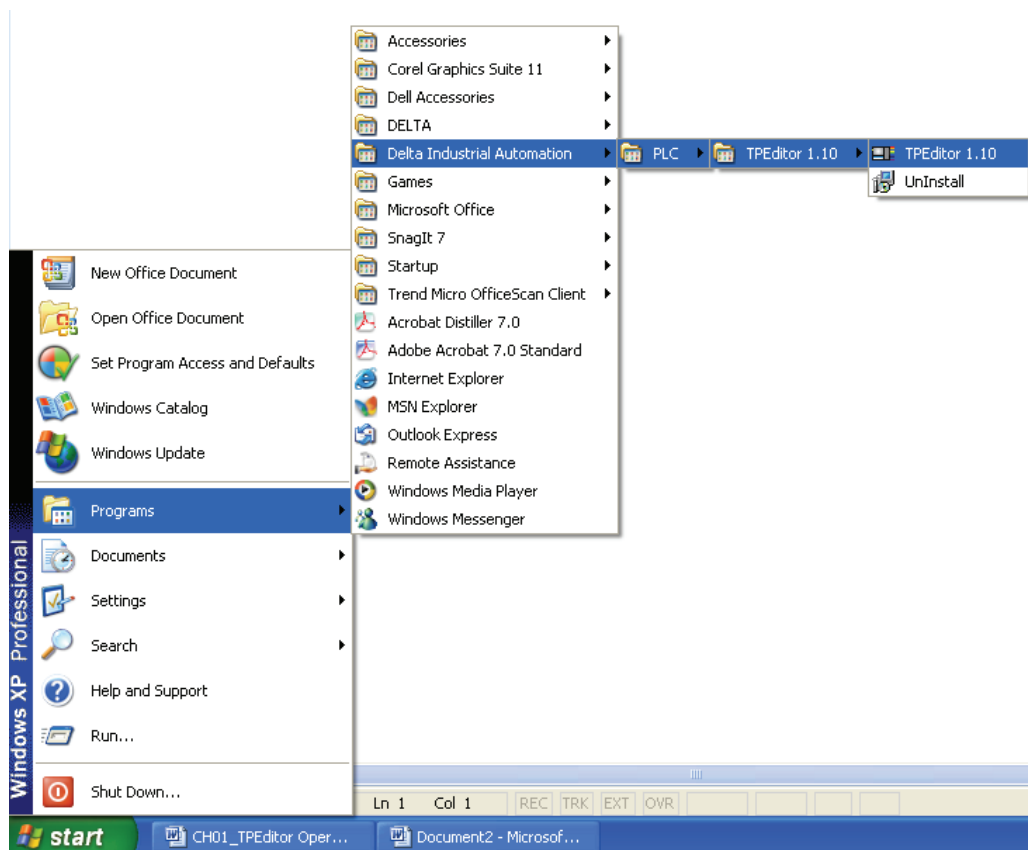

Figure 1-10
- After setup, TPEditor program will be installed in the specified directory. The users can start TPEditor by double-clicking the icon of TPEditor shortcut on the desk, or from Windows taskbar, click **Start > Programs > Delta Industrial Automation > PLC > TPEditor > TPEditor x.xx** (x.xx indicates the version of TPEditor (Figure 1-10)).